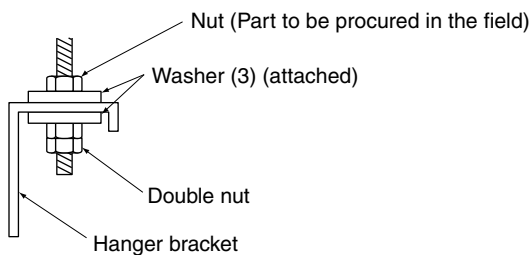

Fig. 9
### (1) Secure the hooks to the eyebolts. (Refer to Fig. 9)